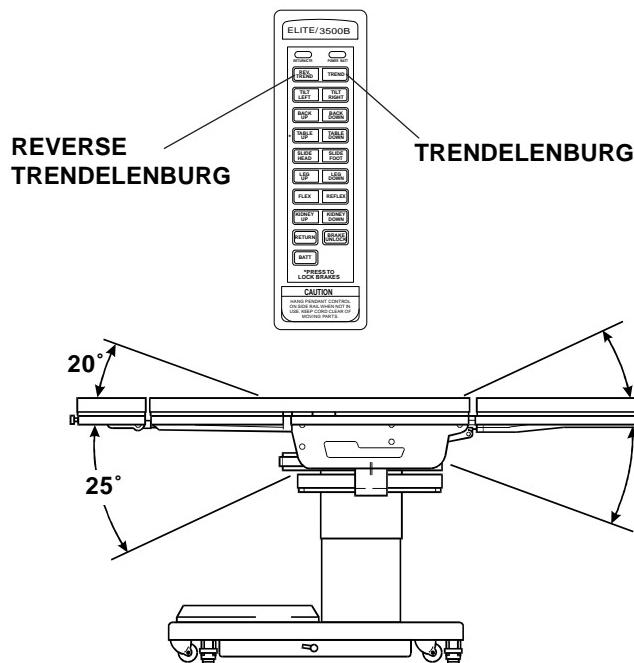

Figure 3-7. Trendelenburg Positioning
**b. Trendelenburg.** To place the surgical table in a Trendelenburg (head down) position, press the TRED. button (figure 3-7). Trendelenburg positioning of up to 25° may be obtained. To place the table in a reverse Trendelenburg (head up) position, press the REV TRED. button. Reverse Trendelenburg positioning of up to 20° may be obtained.